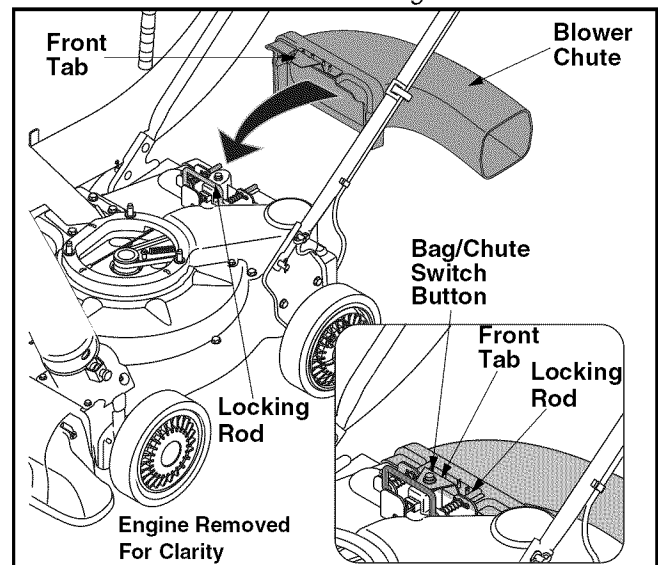

Figure 7
- Grasp blower chute with one hand and slide locking rod on mounting bracket with other hand toward engine. Use the end of mounting bracket as leverage when sliding the locking rod. See Figure 7.
- Grasp blower chute with one hand and pull lock rod on mounting bracket with other hand toward engine to release. Refer to Figure 7.